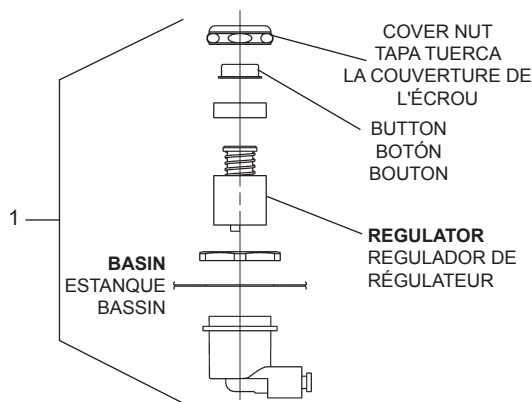

FIG. 4
**SEE FIG.4**
VEA LA FIG.4
VOIR FIG.4